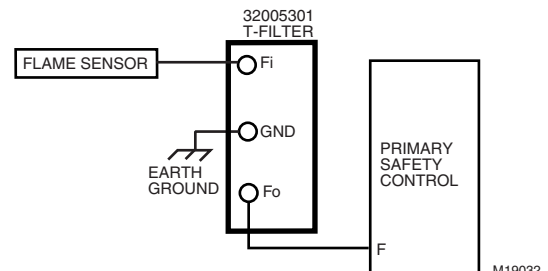

Fig. 1. Connecting the 32005301 T Filter.
4. Connect the flame sensor lead to the Fi terminal on the 32005301 T Filter. See Fig. 1.